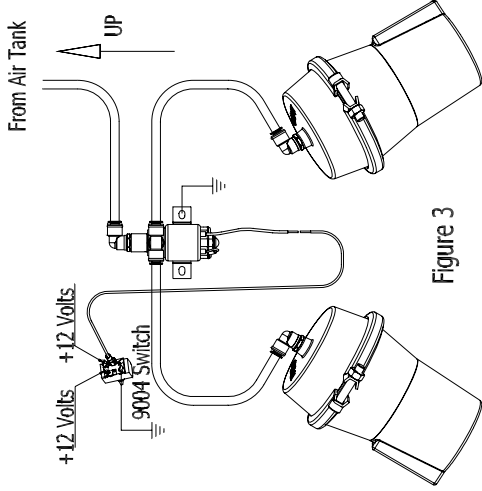

Figure 3
**NOTE:** The solenoid is grounded through the mounting bracket. Mount the solenoid in the **VERTICAL** position. Connect the solenoid to the electric switch (ref. Fig.3)
10. Install the air lines and fittings provided. The line from the air source must be connected to the TOP of the solenoid valve using one of the 90 deg fittings provided. Use the “Tee” fitting on the FRONT (outlet) hole from the solenoid valve. Connect an air line from each of the two chain units to this tee fitting. (ref. Fig.3)